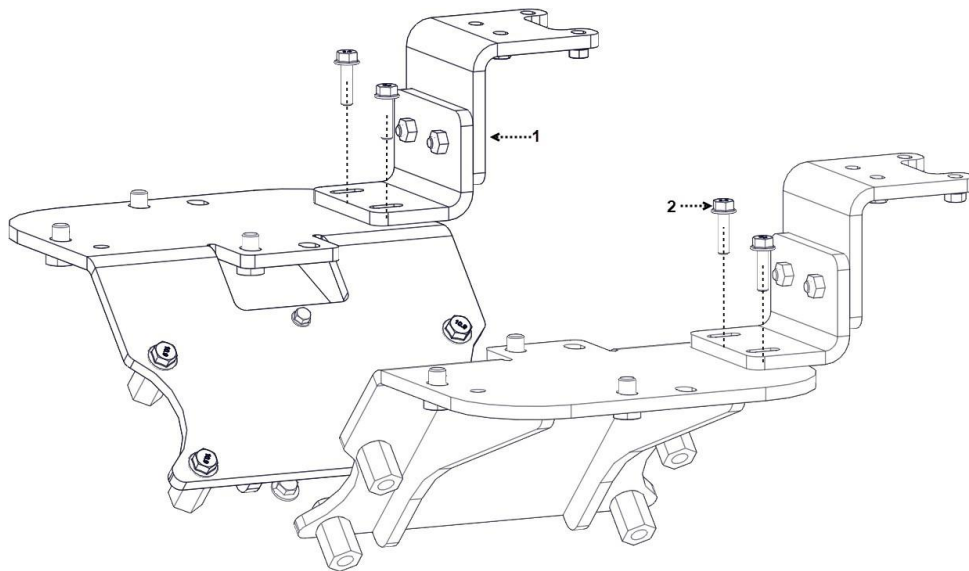

Figure 38. Dual DEPR Bracket Assembly
3. Place the dual DEPR bracket over the dual mixer bracket. (Refer to Figure 38.)
4. Insert and torque down both bolts into the dual DEPR and dual mixer brackets to 22 ft/ lbs. (Refer to Figure 38.)